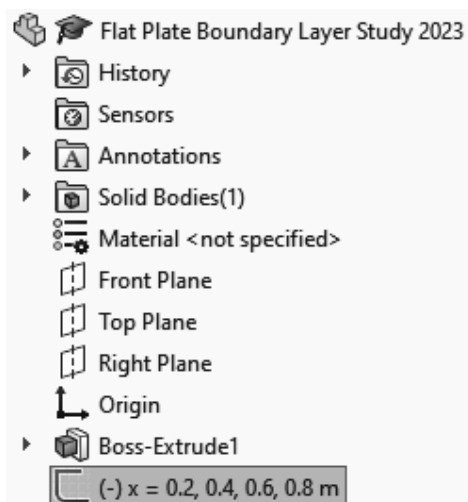

Figure 2.8 Renaming the sketch for boundary layer velocity profiles
8. Repeat steps 6 and 7 three more times and add three more vertical lines to the sketch, the second line at  $X = 400$  mm with a length of 40 mm, the third line at  $X = 600$  mm with a length of 60 mm and the fourth line at  $X = 800$  mm with a length of 80 mm. These lines will be used to plot the boundary layer velocity profiles at different streamwise positions along the flat plate. Close the **Line Properties** dialog  and the **Insert Line** dialog. Save the SOLIDWORKS part with the following name: **Flat Plate Boundary Layer Study 2023**. Rename the newly created sketch in the **FeatureManager design tree**, see figure 2.8. You will need to left click twice to rename the sketch.